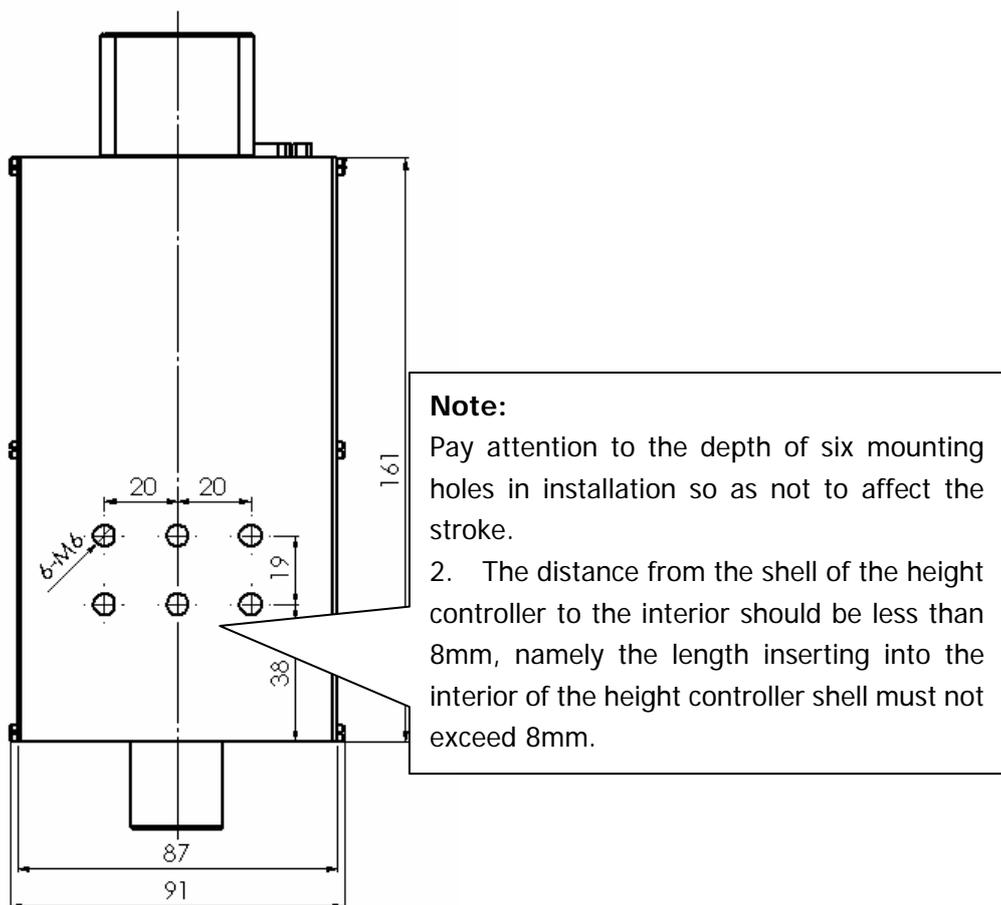

Figure 3-2 Position for installation of screw holes on the back of the controller
- 6 screw holes M6 on the back of the height controller are used to fix the box body to the support. Their position and size are shown in Figure 3-2.